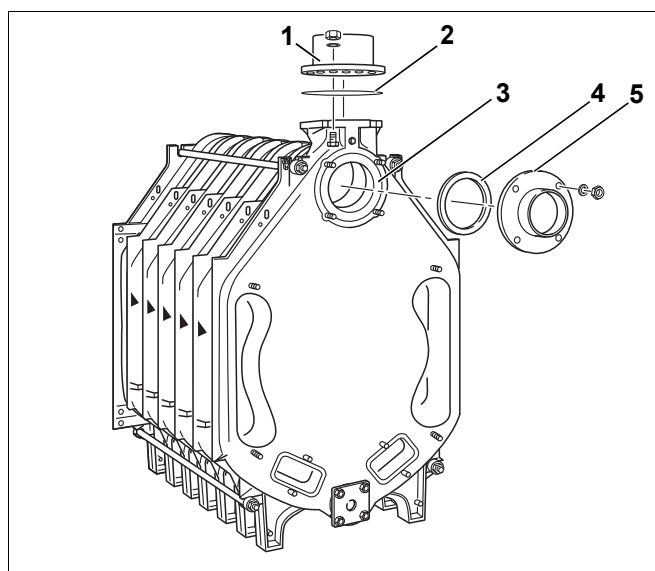

Fig. 28 Install the connection flanges
The weld neck flange is fitted to the upper boiler hub (Fig. 28, [3] – return connection) when the return is installed later.
The illustration shows the weld neck flange and the flat gasket (Fig. 28, [4] and [5]).
- The flow connection flange (Fig. 28, [1]) and the flat gasket (Fig. 28, [2]) are required for the flow connection which is fitted later.